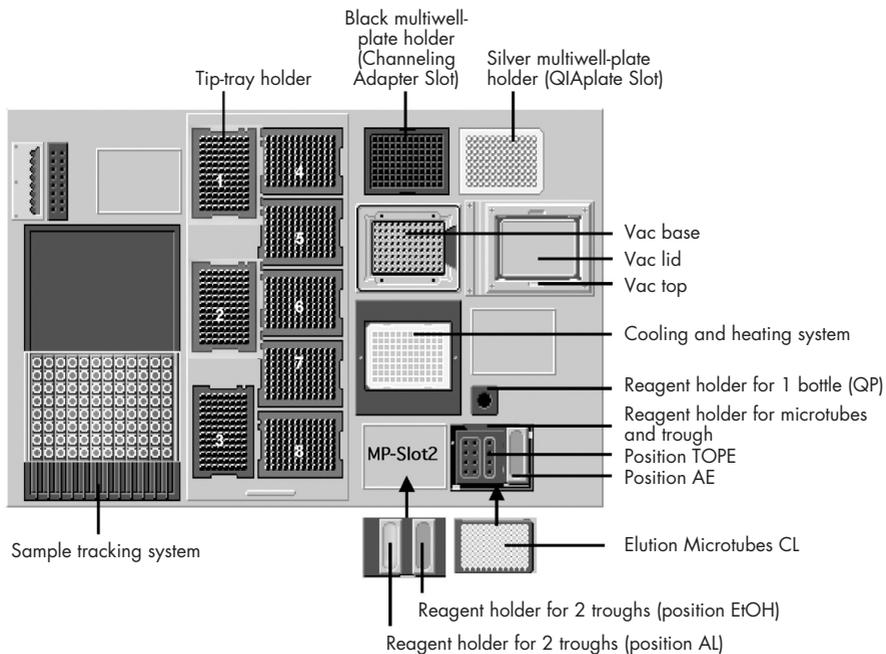

Figure 1. Overview of the BioRobot MDx worktable.
The QIAsoft MDx software guides you through worktable setup. For a summary of worktable setup, see Tables 2, 3, and 4 below and Figure 1 on page 17.
* See Figure 1 for the tip positions.